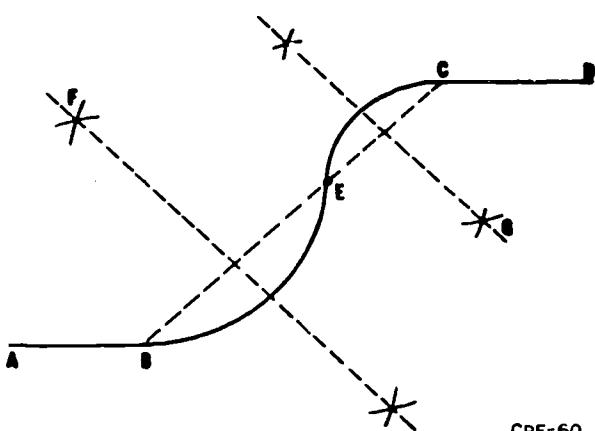

Figure 1-50. Drawing ogee curves.
Figure 1-50 shows how two parallel lines are connected with an ogee (S) curve. This is done by first connecting B and C with a straight line, then selecting a point such as E through which the curve is to pass. Lines BE and CE are each bisected and two arcs constructed: arc BE from center point F and arc CE from center point G. These two arcs connect the parallel lines AB and CD. In sheet metal work, you will use ogee bands in rain gutters, the side pieces for duct offsets, and anywhere sheet metal is formed into a reverse or S curve.